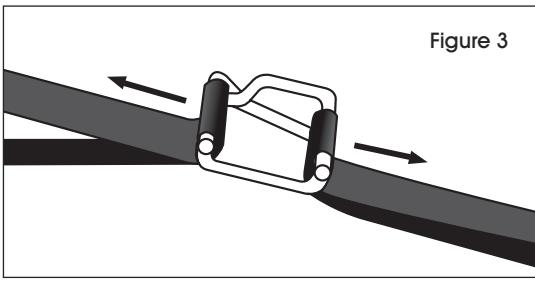

Figure 3
3. Pull both top ends of strapping in the opposite direction to manually tighten. (See Figure 3)